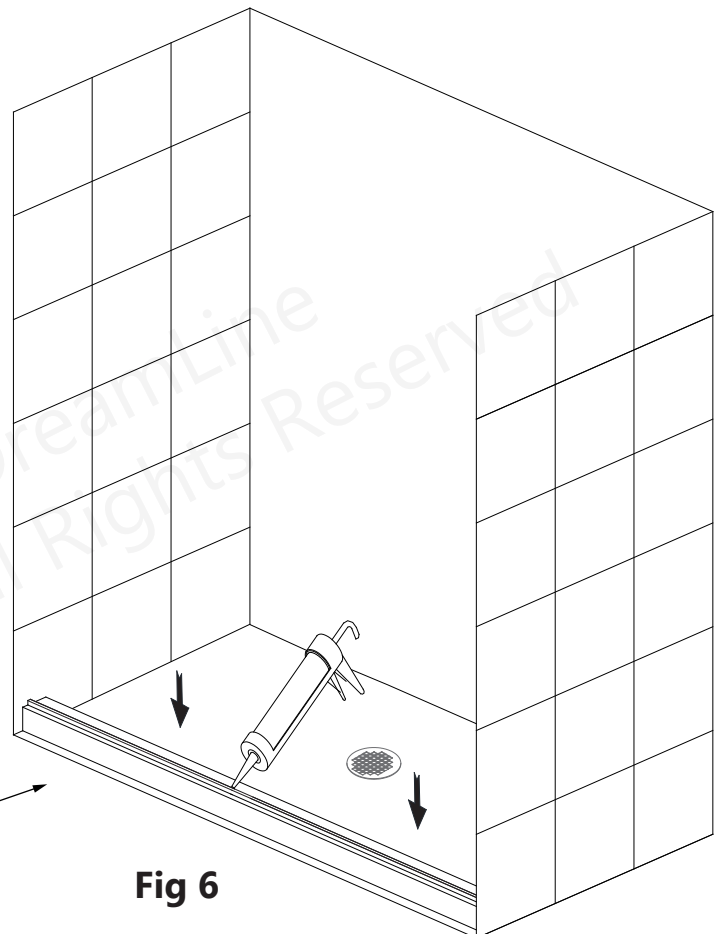

Fig 6
6. Run a bead of silicone along the inside edge of the Bottom Rail (#21). (Fig 6)